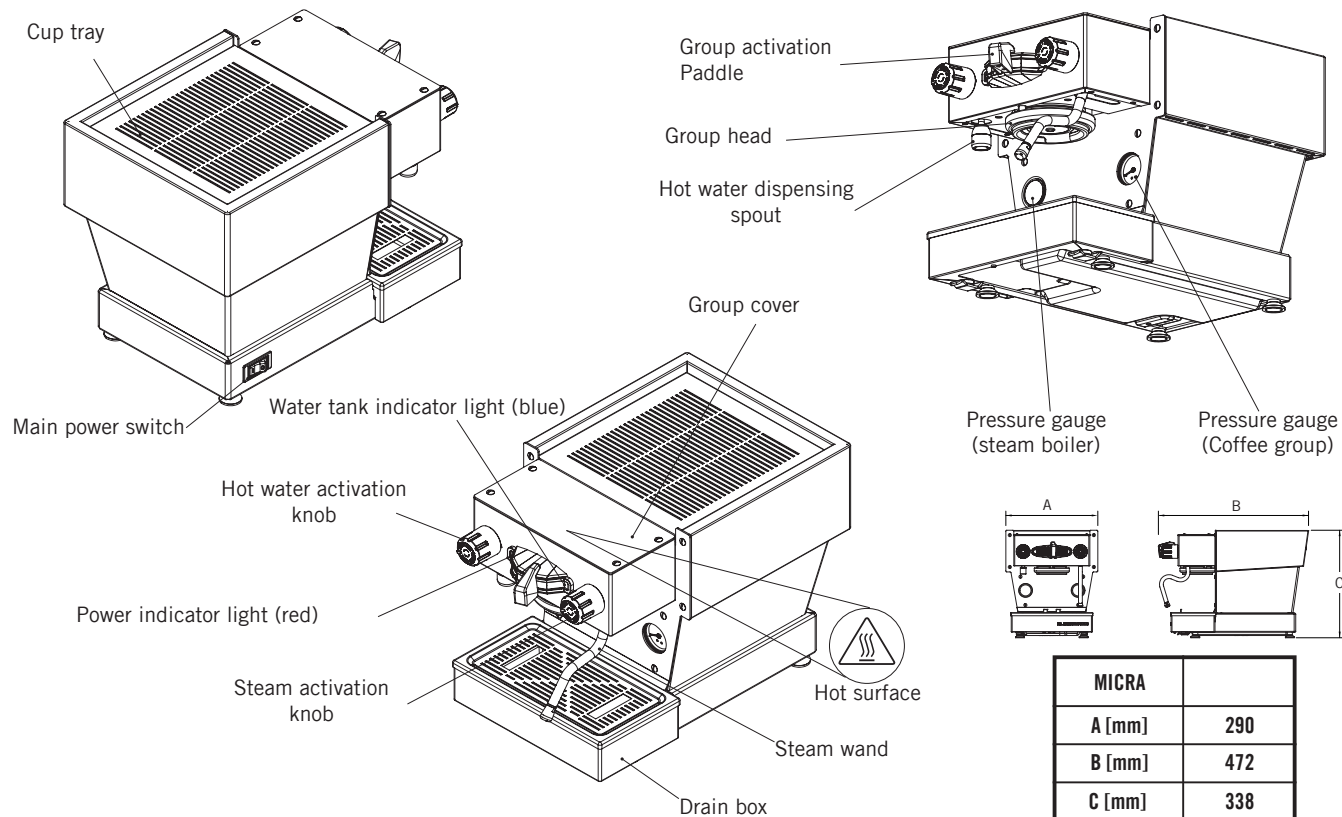

Figure 1 - Machine Description
2. Brewing coffee. It is now possible to remove the portafilter to make a coffee beverage. Place some ground coffee in the portafilter basket using the single or double basket. Press down on the ground coffee with the supplied tamper and install the portafilter on the micra. Move the paddle handle from right to left to begin brewing (see Fig.1 page 8).